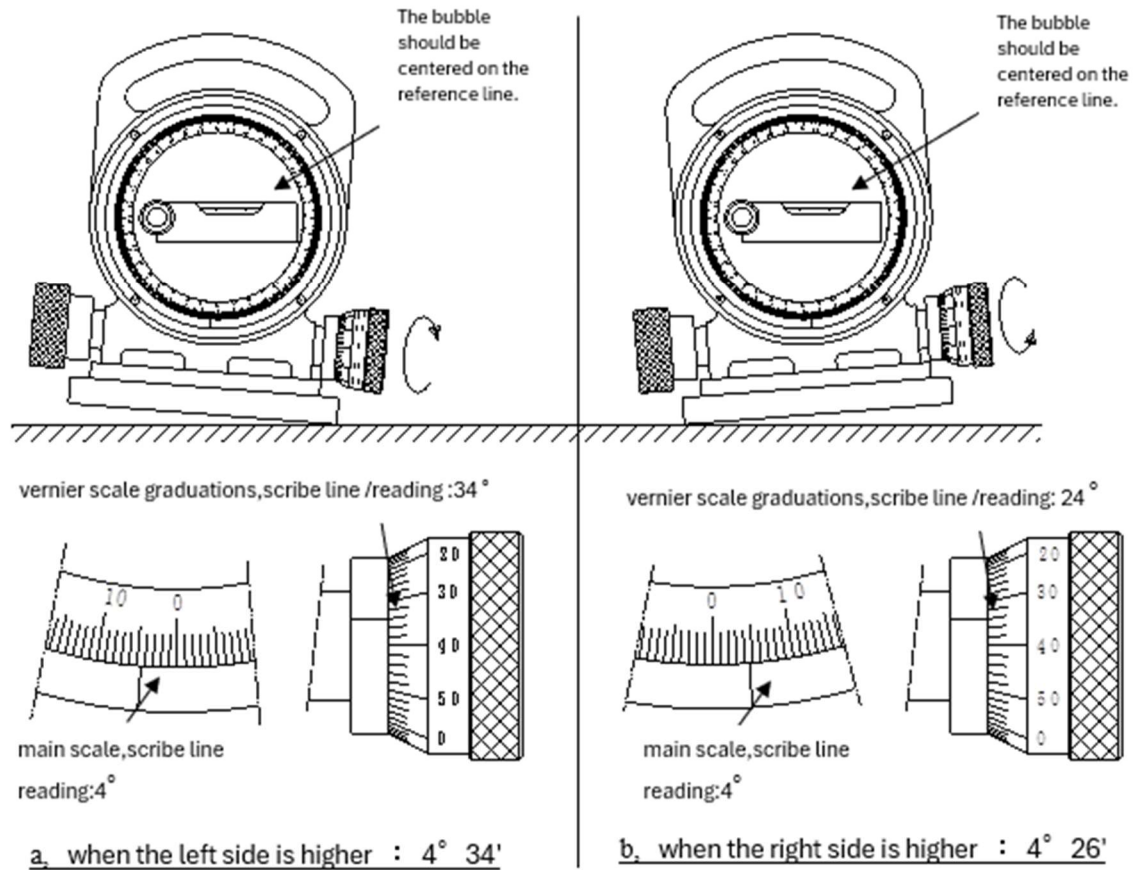

Figure 2. Reading the Graduations of the Inclination Level – The Indicated Value May Differ Even for the Same Graduation
- ① Set the instrument on the inclined surface and turn the handle until the bubble in the main vial is centered.
- ② The method of reading the scale when the bubble in the main vial is centered is shown in Figure 2.
- ③ Each graduation on the vernier scale represents 2 minutes. One full revolution of the vernier scale graduations corresponds to 2 degrees on the main scale.
- ④ As shown in Figure 2, when the left side is higher and when the right side is higher, the reading of the same vernier scale graduations will differ. This is because the direction of rotation of the vernier scale graduations is reversed.